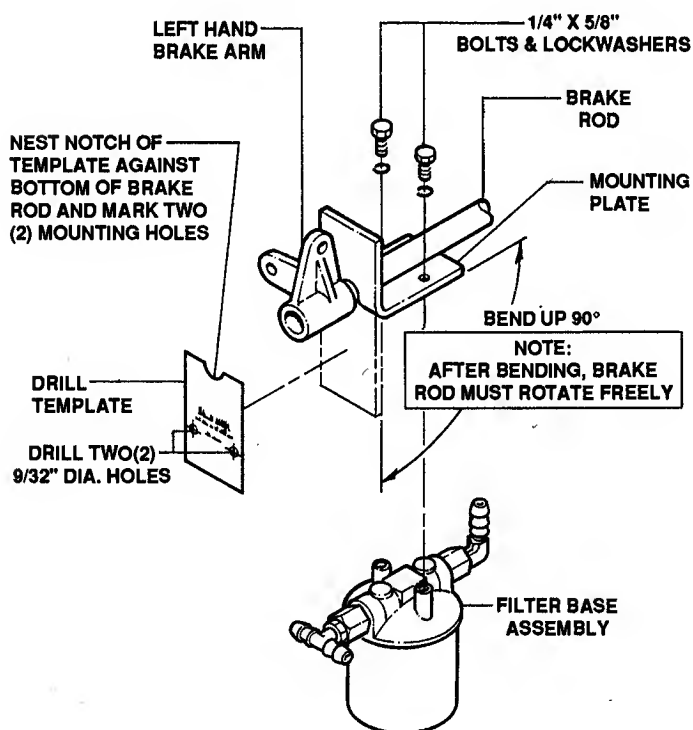

FIGURE 9.9
- (c) After drilling, bend the mounting plate up and in towards the center of the tractor approximately 90 degrees as shown in Figure 9.9.